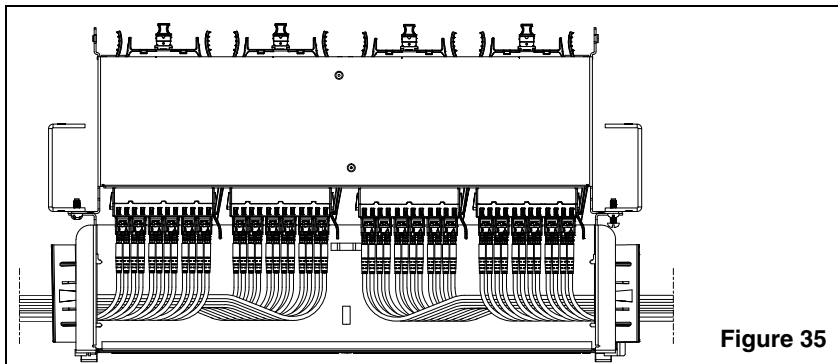
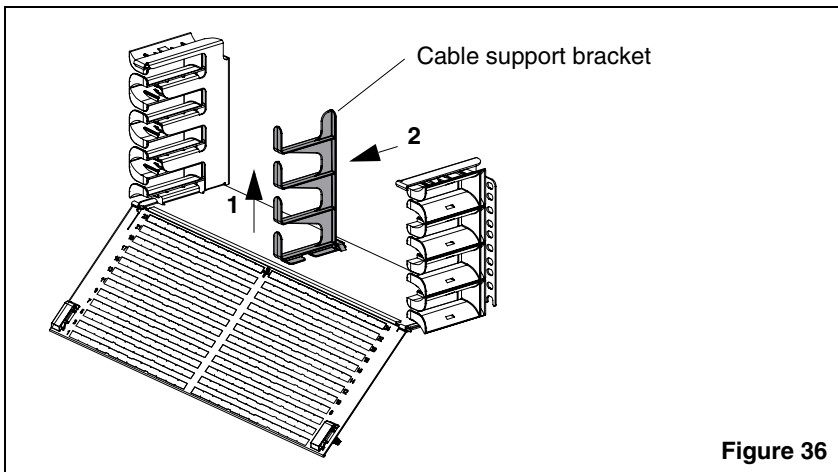

Figure 35
Figure 36
The patch cords may be routed, through the bend radius clips, to both sides (recommended) and secured with Tak-Ty. (See Figure 35.) The cable support bracket may be removed to improve access. To remove the cable support bracket, pull up on the front of the bracket (1), then slide the bracket out, toward the front of the unit (2). (See Figure 36.)